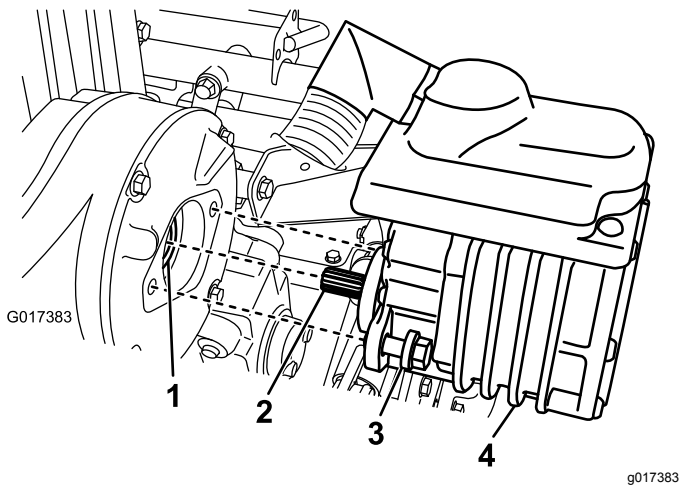

Figure 40
2. Remove the 2 bolts that secure the motor to the transmission case (Figure 40).
4. Add 1 to 2 pumps of grease from a grease gun to the female coupler in the transmission case (Figure 40).